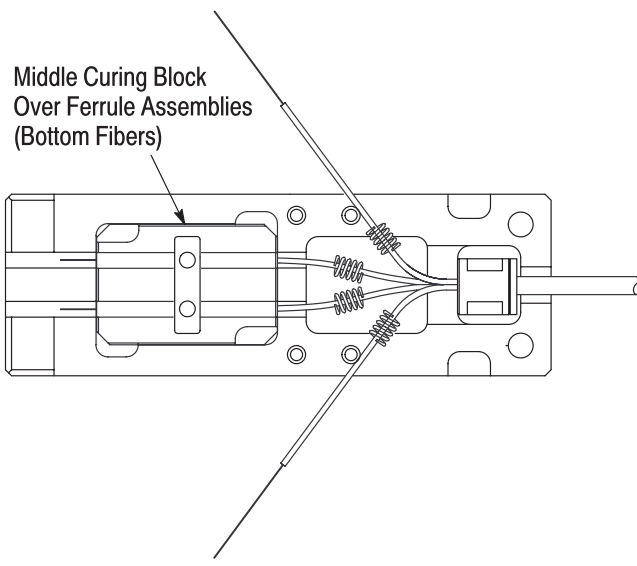

Figure 5
6. Place the middle curing block over the ferrule assemblies in the large nest of the bottom curing block so that half of its thickness sits in the nest. See Figure 5.